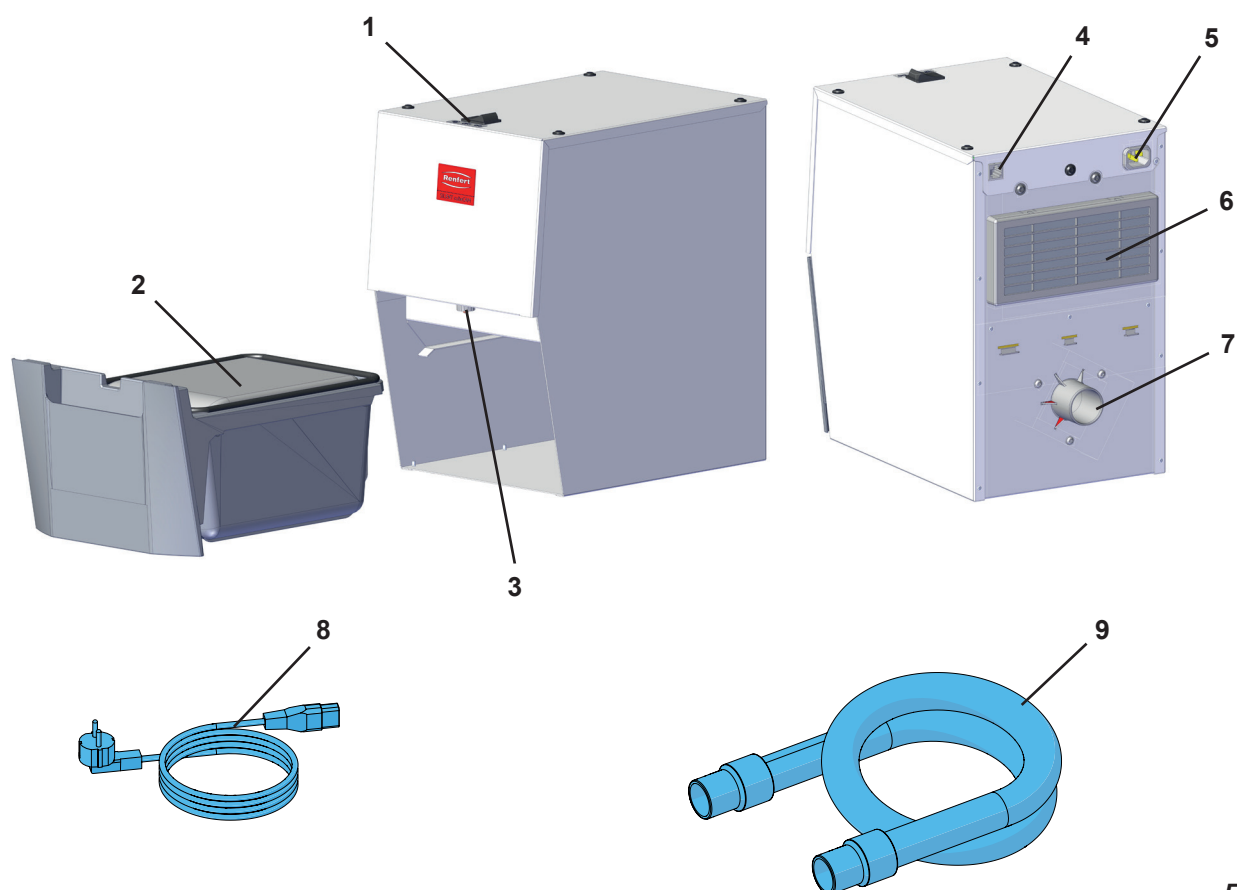

Fig. 1
- The exhaust air outlet (6, Fig. 1) is not blocked.
- Opening in the rear panel of the cabinet, min. 250 x 120 mm, directly opposite the exhaust air outlet (6, Fig. 1).
- ⇒ Set the mode selector switch (1) to the center position "OFF".
- ⇒ Plug the power cord (8, Fig. 1) into the power supply (5, Fig. 1).
- ⇒ Plug the suction hose (9, Fig. 1) onto the suction port (7).